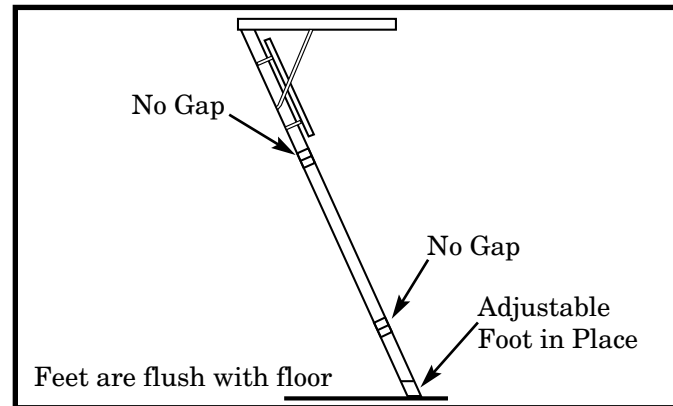

Figure 26 Connect Setup
STEP 7. Fully extend the access ladder and place the adjustable feet on the rails. Adjust the feet so that there are no gaps between the metal hinges and the feet are flush with the floor (Figure 26). Using the hole in the adjustable feet as a guide, drill through the rails using a 13/64" diameter bit (Figure 27). Using the nuts, washers and bolts provided, bolt the adjustable feet to the rails (Figure 28).